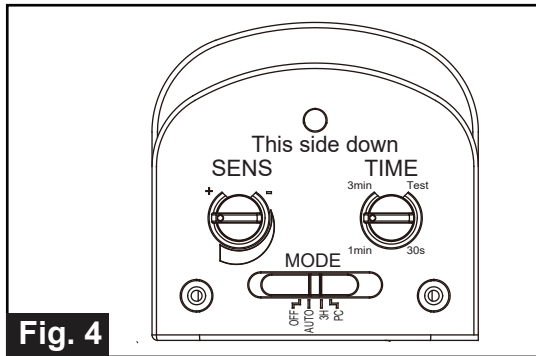

Fig. 4
- You can adjust the sensitivity of the motion sensor by using the “SENS” knob located on the right side of the bottom surface of the sensor. (See Fig. 4)
Choose a mode by sliding the switch on the bottom of the sensor of the fixture. (See Fig.4)